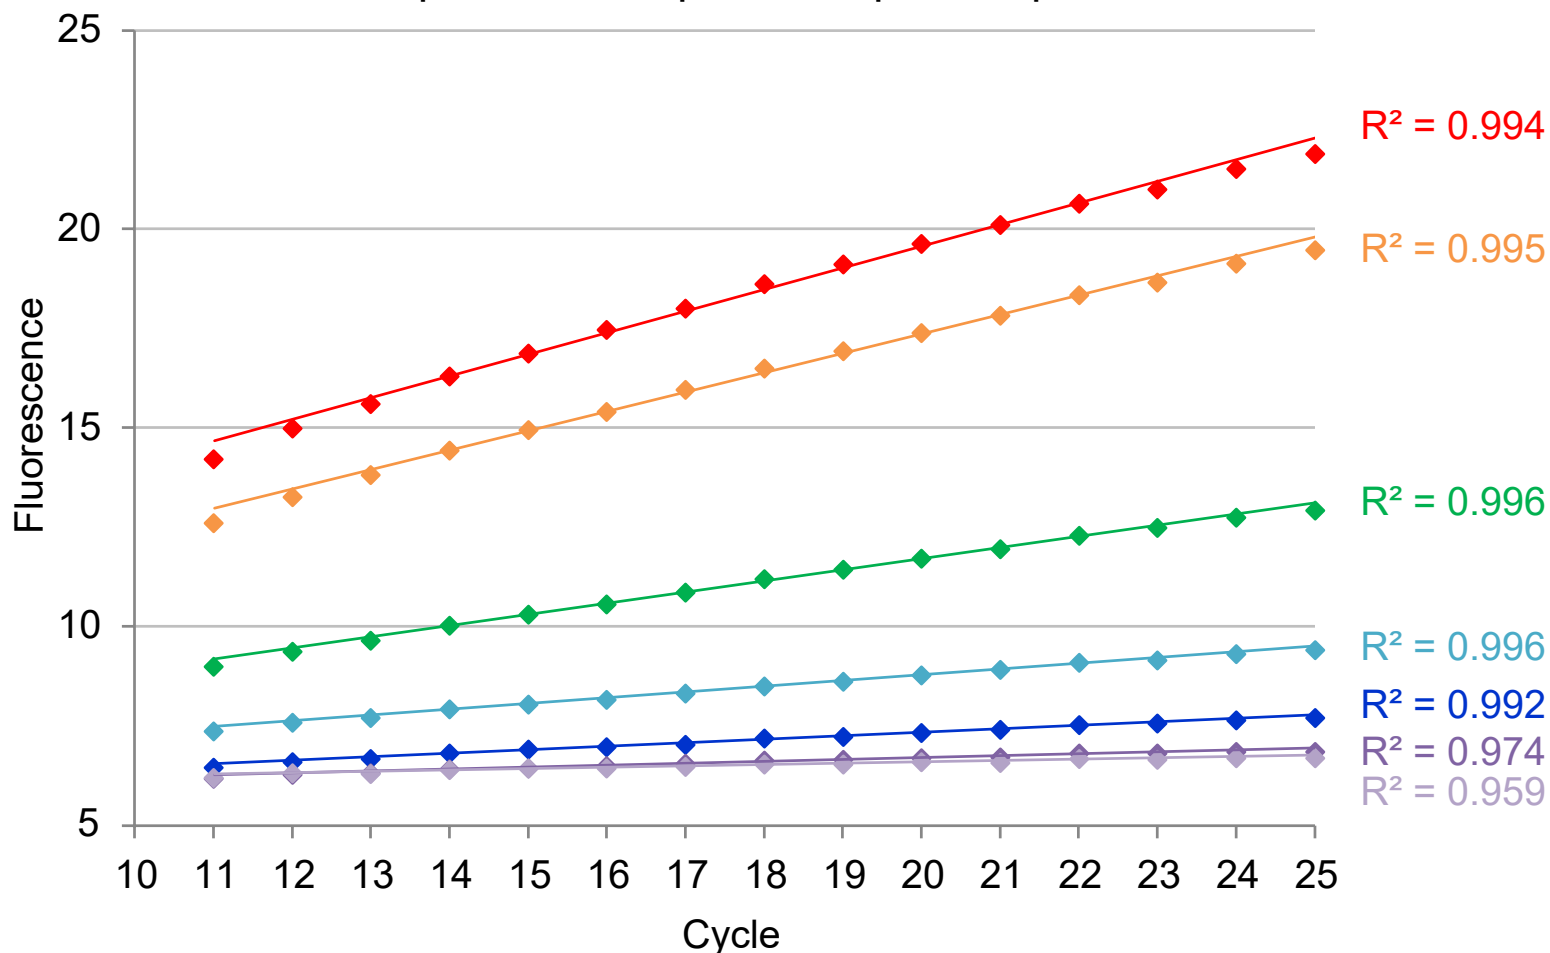

Figure 4. Initial slopes for EvaEZ™ curves shown in Figure 2 and Figure 3, with R² values for the linear trendlines.
4.4. You may verify that the curves are linear for the cycle range you selected by graphing that range separately and fitting linear trendlines to the data (see Figure 4).
Figure 5. Plot of Taq concentration vs. slope for the EvaEZ™ initial slopes shown in Figure 4, showing linear increase in initial slope up to 0.8 U/uL, with activity reaching plateau before 1.6 U/uL. Each point is the average of triplicate samples; error bars show standard deviation.